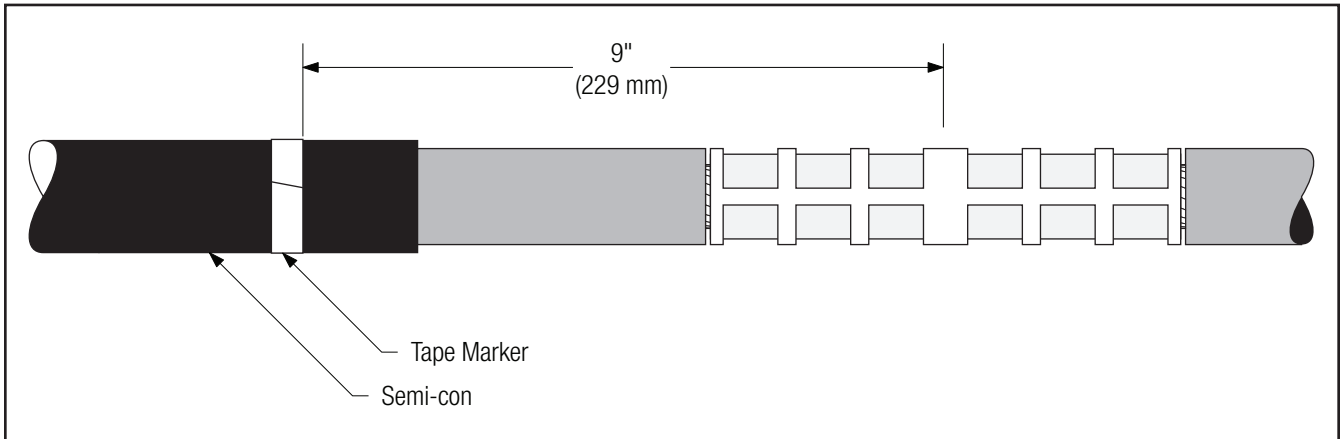

Figure 17
- 5.1 Apply a tape marker to semi-con insulation shield on cable which does not contain splice. Measure 9" (229 mm) from center of connector (*Figure 17*).